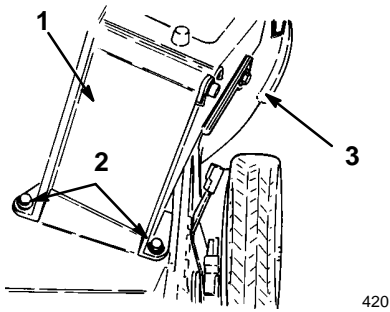

Figure 33
1. Bolt (4)
3. Position the discharge tunnel and door assembly on the mower, aligning the holes in the discharge tunnel with holes in the mower (Fig. 33).